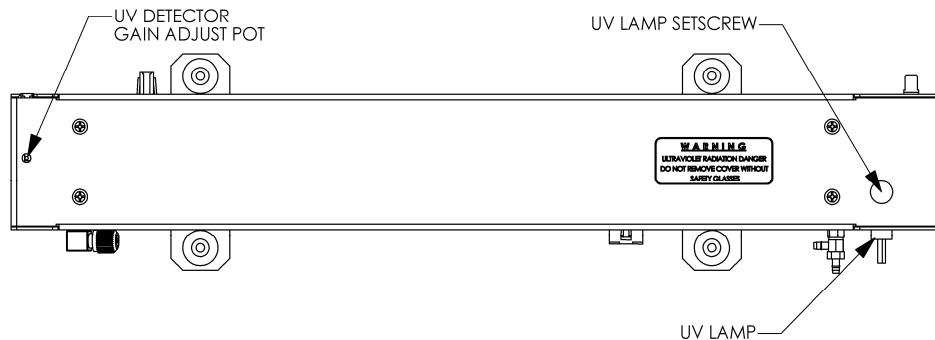

Figure 11-3: Optical Bench – Lamp Adjustment/ Installation
3. Locate the **UV DETECTOR GAIN ADJUST POT** on the photometer assembly (see Figure 11-3).